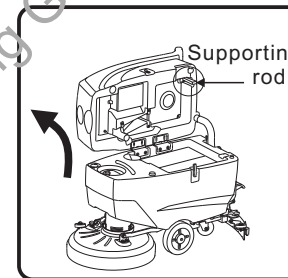

fig.8
- Tilt open the tank when charging batteries to achieve better heat ventilation(fig.8).(Empty the tank and remove tools left on the cover before tilting.)